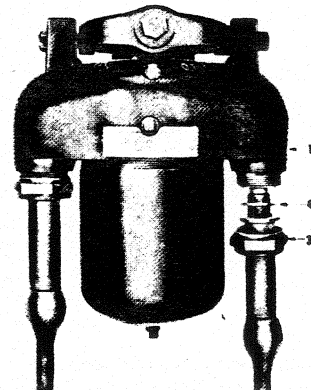

Fig. 16
14. Replace the gasket (4), Fig. 16, and push the assembled terminal back into position until the union nut (3) catches onto the threads of the cover (1), allowing the excess petrolatum to squeeze out through the gasket joint. Tighten the union nut (3) sufficiently to seal the joint.